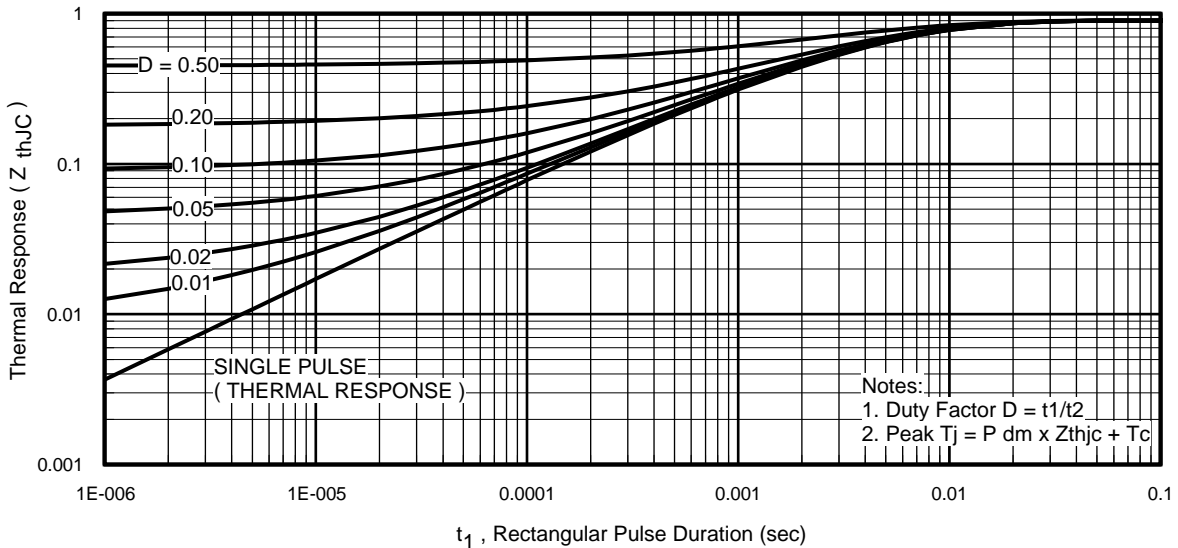

Fig 11. Maximum Effective Transient Thermal Impedance, Junction-to-Case
- ① Repetitive rating; pulse width limited by max. junction temperature. (See fig. 11).
- ② Limited by T_{Jmax} , starting $T_J = 25^\circ\text{C}$, $L = 0.08mH$
$Z_{thJC}(D, t_{av})$ = Transient thermal resistance, see figure 11)